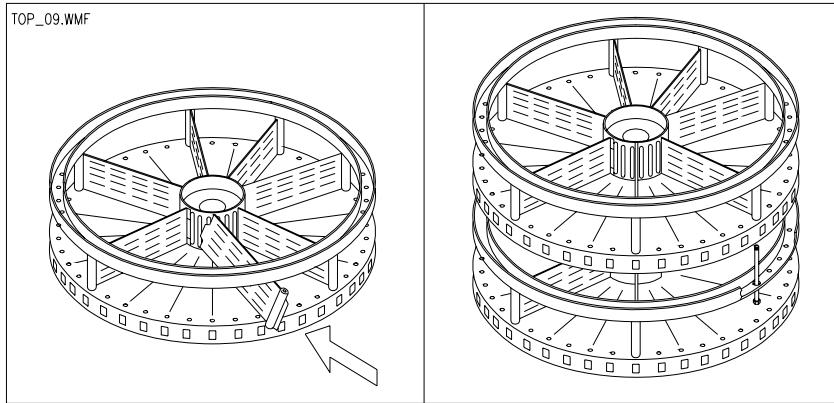

FIG. 9
- 3) To add dividers, locate in the central hub of the drum FIG. 9.
- 4) Rotate the drum below the one being modified to align the large diameter hole in its upper ring with the locating hole for the divider being fixes FIG. 9.